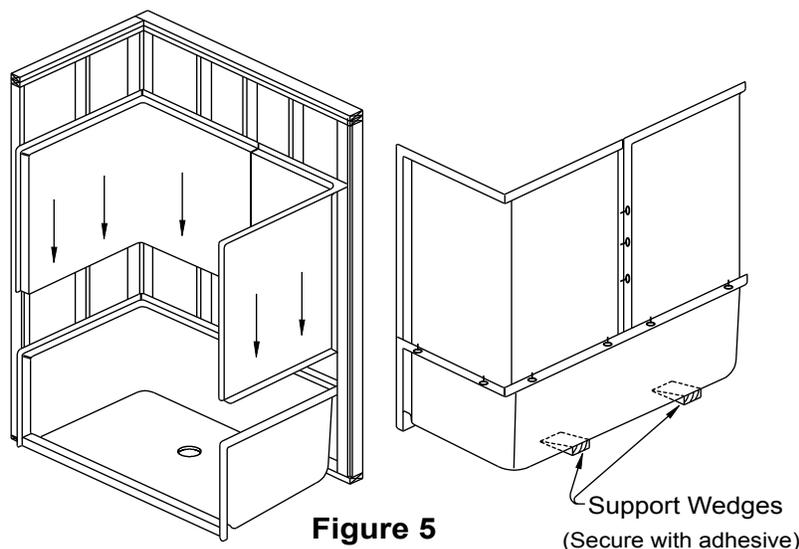

Figure 5
4. Install drain and/or overflow assembly on unit following drain manufacturers instructions. Place the base unit in the install location. Level the unit. Place support wedges under the back edge and secure with adhesive. A minimum of two shims should be used for proper support. (See Figure 5). Re-check level and attach base to framing studs with 6D galvanized screws.
7. Place the walls on top of the wooden blocks. One by one remove the blocks taking care to align the plastic fasteners into the holes in the underside of the walls. For three piece units, install the left wall first. Repeat for the right wall. Press all seams together to assure a tight fit. Wipe away any excess caulking. See Figure 5.